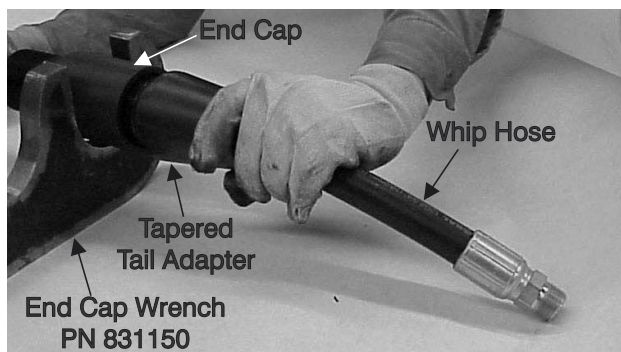

Figure 11-30. Slide Tail Adapter to End Cap
3. With the threaded end toward the End Cap (8), slide the Tapered Tail Adapter (13) over the Whip Hose (10) to the internal threads of the End Cap as shown in Figure 11-30.